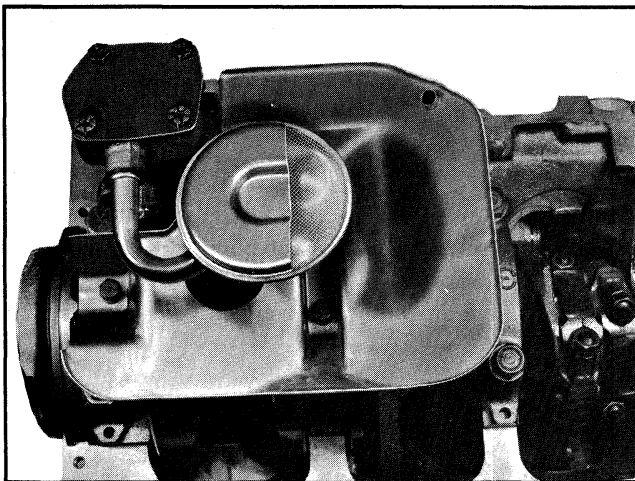

Fig. 6-129 Oil Pump and Baffle
2. Remove oil pump and baffle (Fig. 6-129).